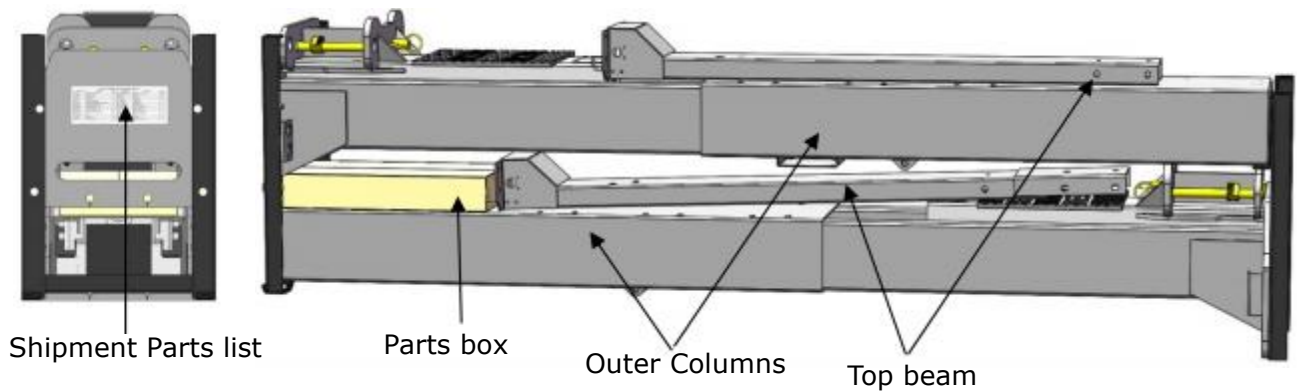

Fig. 11
2. Move the lift aside with a fork lift or hoist, unpack the lift, tear off the shipment parts list and check the components in the package according to the list. (See Fig. 11)